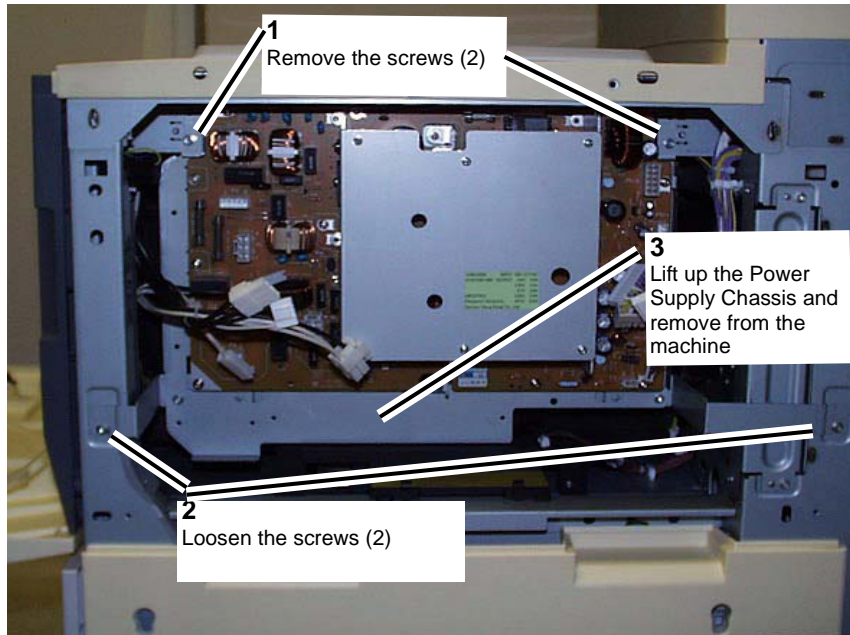

Figure 2 Removing the Power Supply PWB
- b. Loosen the screws (4). (Figure 2)